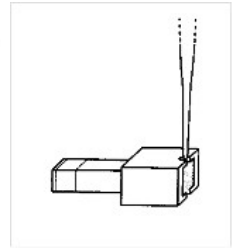

Figure 6
5. Pre-set a pipette to 50-60µl, and insert the provided capillary pipette tip through the hole in the membrane and gently push the tip downward (See Figure 6). The capillary tip slides over the cutting edge (slope) of the punch. The tip pushes the wet membrane forward as it moves downward into the collection port.